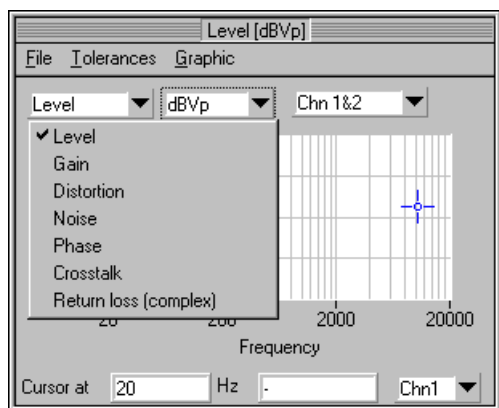

Fig 29 RT-Eval measurement panel
**Fig 29** shows the list of available multitone measurement functions that can be activated. Select the required function within each panel and adjust the unit and input channel(s) according to your demands.